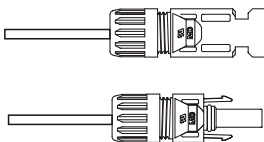

Figure 4.13 Connector with Cap nut Screwed on
4. Insert the contact pin to the top part of the connector and screw up the cap nut to the top part of the connector .(see figure 4.13).